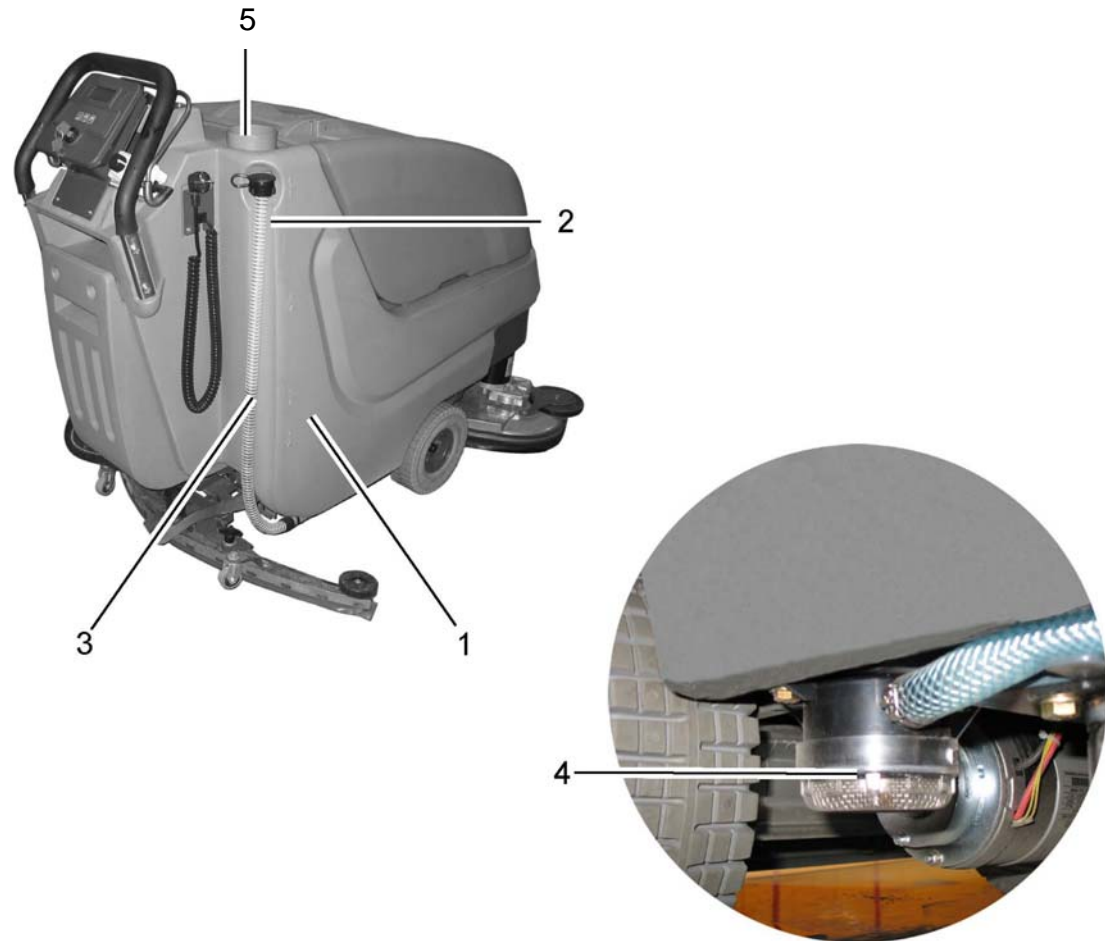

Fig.8
Fill solution tank (Fig. 8/1) before work or as required. Park vehicle on level ground. Open tank lid (Fig. 8/5) and fill tank up to the maximum (1/1 marker) (Fig. 8/2). Alternatively, filling of the machine via quick coupling (Fig. 8/6) is available. Before doing so, connect the filling hose of the dosage unit and the quick coupling. The floater valve automatically closes after the maximum filling level has been attained. (Refer to specific operating instructions for information on operation of the dosage unit) The maximum admissible service pressure of the floater unit is 87psi.
Park vehicle such that the fill level hose (Fig. 8/3) is located above the drain aperture in the floor. Take fill level hose from holder and remove lid.
Check solution filter (Fig. 8/4) at weekly intervals and clean or replace if required.
1. Empty solution tank (Fig. 8/1), siehe Abschnitt 5.5.2.